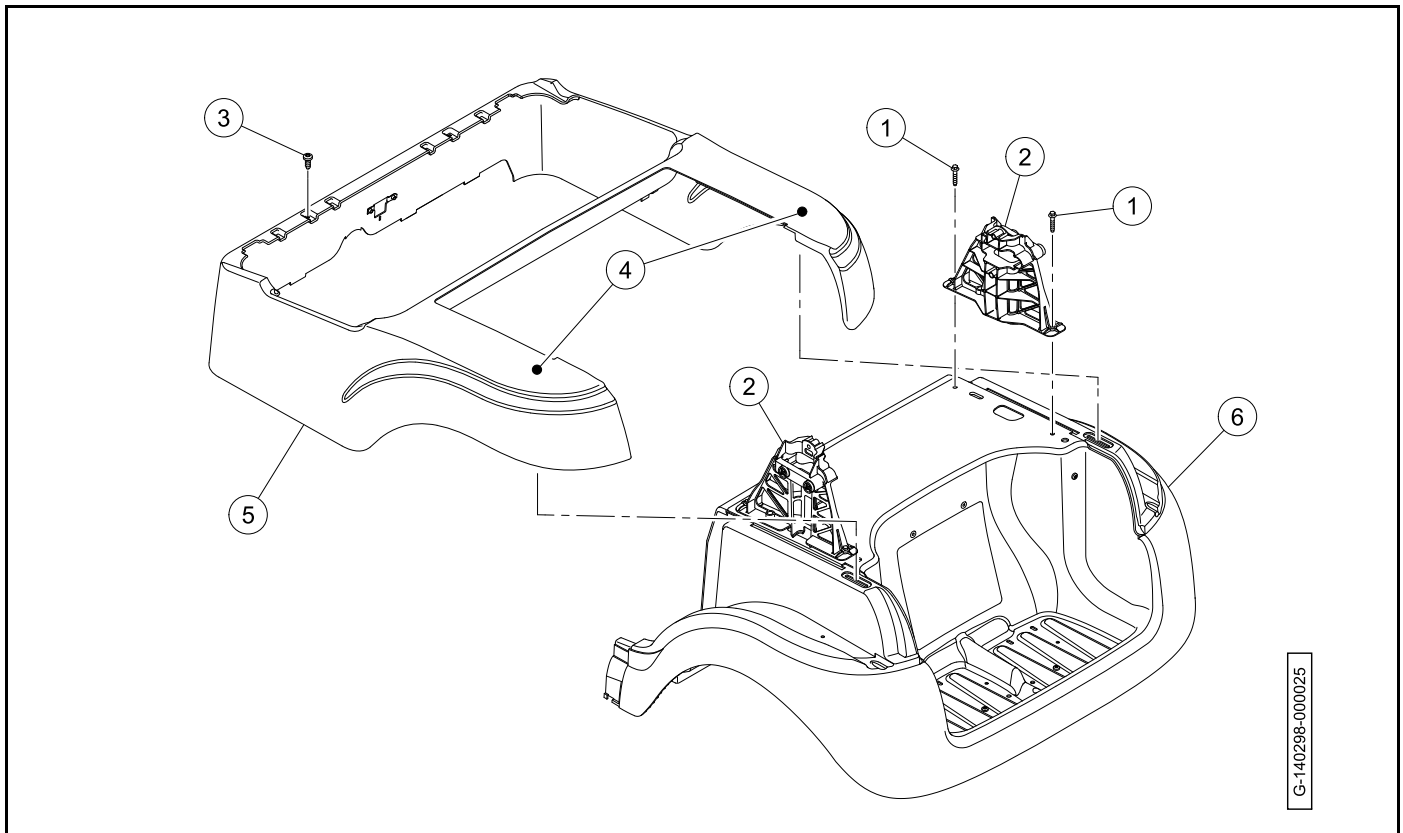

Figure 4-31 Rear Beauty Panel
2. Remove the screws (1) (**Figure 4-31**).
3. Remove the canopy support brackets (2).
4. Remove the four screws (3).
6. Disengage the two body clips (4) of the rear beauty panel (5) from the slots in the rear underbody (6).
1. Install the rear beauty panel (5) onto vehicle (**Figure 4-31**).
2. Make sure that the two body clips (4) engage the slots in the rear underbody (6).
3. Install the four screws (3). Tighten the screws to 44 lb·in (5 N·m).
5. Put the canopy support brackets (2) on the vehicle.
6. Install the screw (1). Tighten the screw to 53 lb·in (6 N·m).